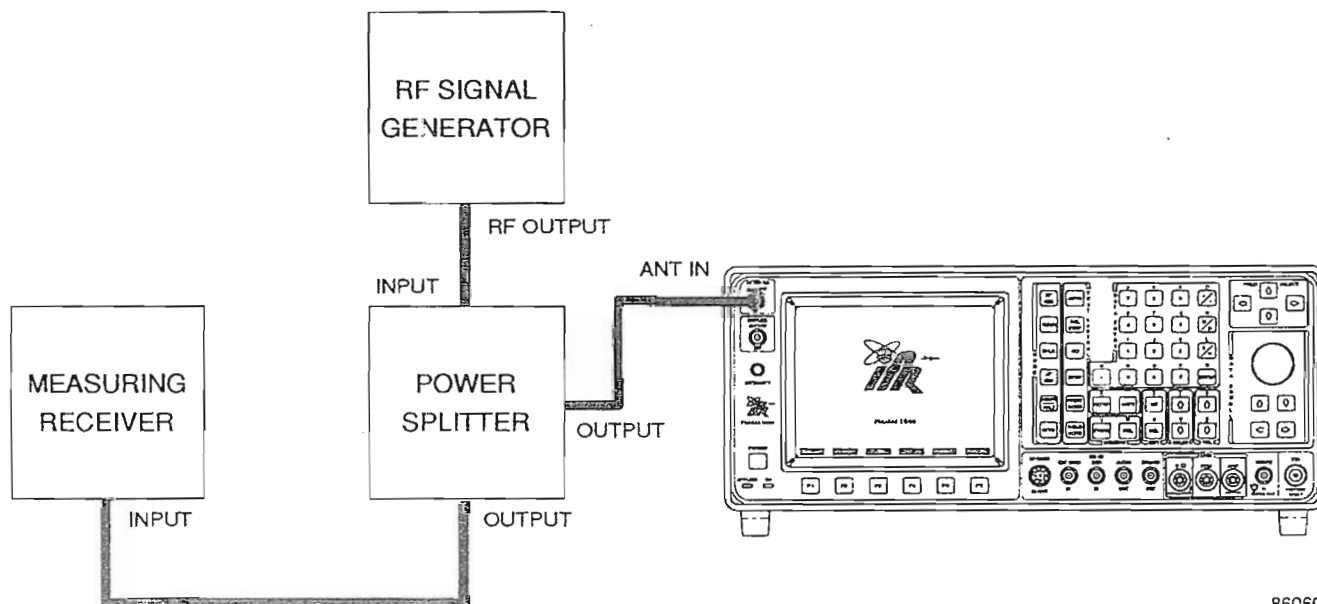

Figure 3-16 Phase Meter Calibration Test Set
FIGURE REFERENCES: Figure 3-16
- Connect Measuring Receiver input to one output on Power Splitter and ANTENNA IN Connector (25) to other output on Power Splitter (Figure 3-16).